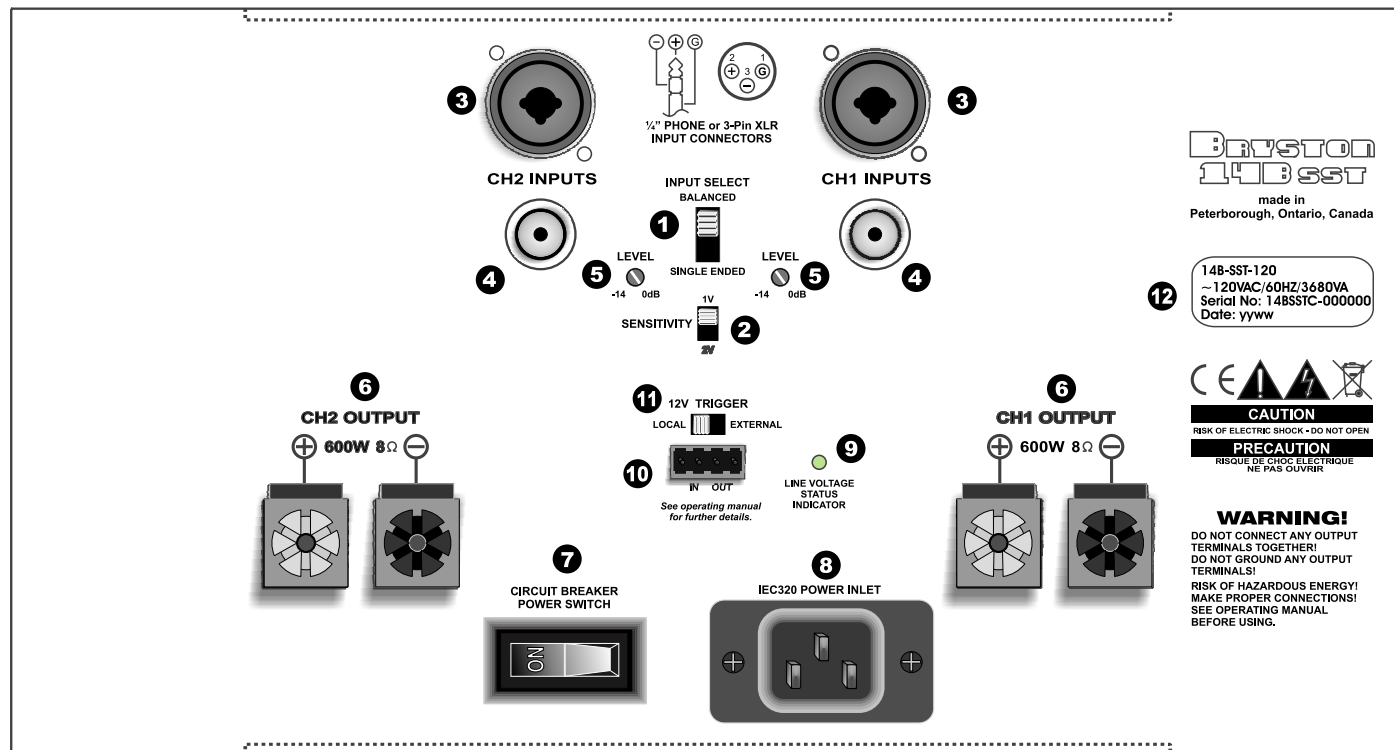

Figure 1
(refer to figure 1 on page 2)
On the rear panel is provided a high current plug for the power cord receptacle. Check that the voltage rating on the label (item 12 in figure 1, page 2) conforms with your locality. With the circuit breaker 'OFF' insert the power cord into the 14B-SST amplifier, then plug the other end to an appropriate A/C power outlet. Switch the circuit breaker to on and observe the LED labeled "Line Voltage Status Indicator".
- 1) Supply a 4v to 12v A/C or DC control voltage to the 'IN' terminals of connector (10).
- 3) Set slide switch (item 11 in figure 1, page 2) to "External". The amplifier will now power-up only when the control voltage is present (on).
Immediately following power up, the control voltage will appear at the 'OUT' terminals of the interface connector (item 10 on figure 1, page 2, also see below) for the control of other equipment. The removal of the control voltage (0v) causes the amplifier to turn 'off' and the control voltage at the 'OUT' terminals is interrupted.